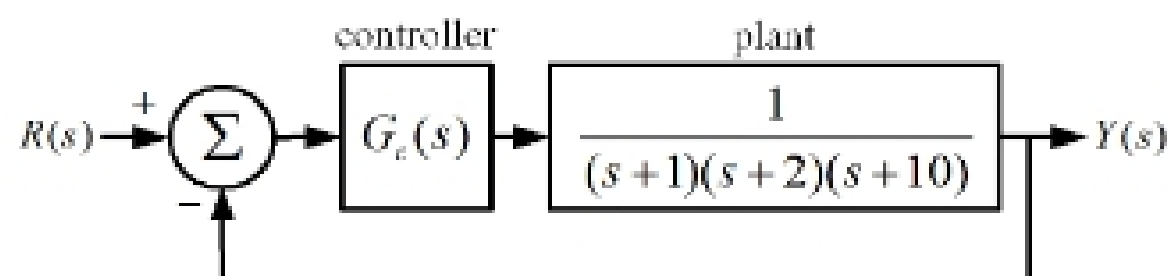

Figure 1: Feedback control system using cascade compensation.
for the feedback system in Figure 1 so that the closed-loop system meets the following design specifications.
- (10 points) Once again consider the closed-loop system in Figure 1. Using the root locus method, design a phase-lag controller
where $p < z$, for the feedback system in Figure 1 so that the following design specifications are met.